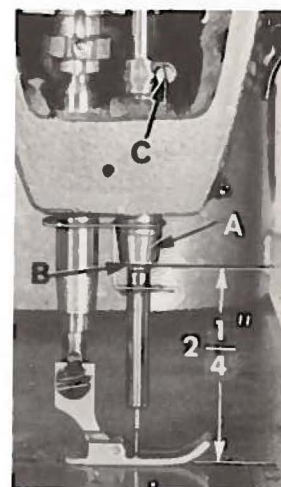
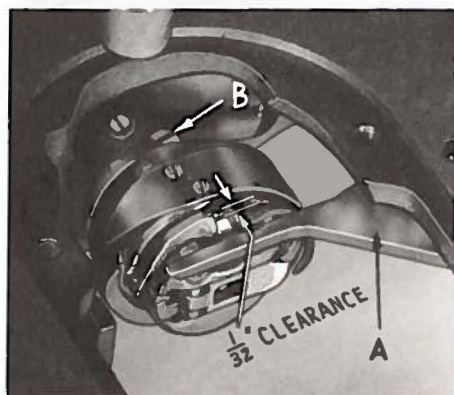

Fig. 11
Fig. 12
The lower needle bar bushing, the one to which the needle bar is timed, is set at the factory. The distance from the bottom of bushing (A, Fig. 11) to the throat plate seat (not to the top of the throat plate) is $2\frac{1}{4}$ inches.
When the needle bar is at its lowest position, the upper timing line of the lower pair (B, Fig. 11) should be EVEN with the lower edge of the lower needle bar bushing (A).
The illustration (Fig. 11) shows the proper setting of the needle bar on Style 63400 E or L using needle, Type 180 GXS or 180 GYS.
Tip the machine back so that it rests on the rest pin in the table top. Insert a new needle. Loosen the two screws and swing out the bobbin case positioning finger (A, Fig. 12). Loosen the three set screws (B) in the hook and hold the hook and bobbin case holder in such a position as to prevent interference with the needle. Turn the handwheel in operating direction until the needle bar is at its lowest position and continue to turn the handwheel until the needle is ascending and the lower timing mark (of the lower pair) (Fig. 11) used in setting the needle bar is even with the lower edge of the needle bar bushing (A).
Turn the hook on the shaft until the point of the hook is even with the center of the needle and as close to the needle as possible without deflecting it. A spacing of .003 to .005 inch between the needle and the point of the hook is satisfactory. With the hook in this position, tighten the set screw opposite the hook point securely. Then, tighten the two remaining screws securely and recheck the timing of the hook with the needle, at which time, the top of the eye of the needle should be about $\frac{1}{64}$ inch below the bottom of the hook point. If this condition does not exist, recheck the setting of the needle bar bushing in relation to the throat plate seat (Fig. 11).
Adjust the bobbin case holder positioning finger by turning the bobbin case holder until the finger recess is at the top. Place the projection on the finger into the bobbin case holder recess and tighten the finger attaching screws securely, allowing $\frac{1}{32}$ inch clearance between the outside edge of projection and the inside edge of bobbin case recess (Fig. 12).